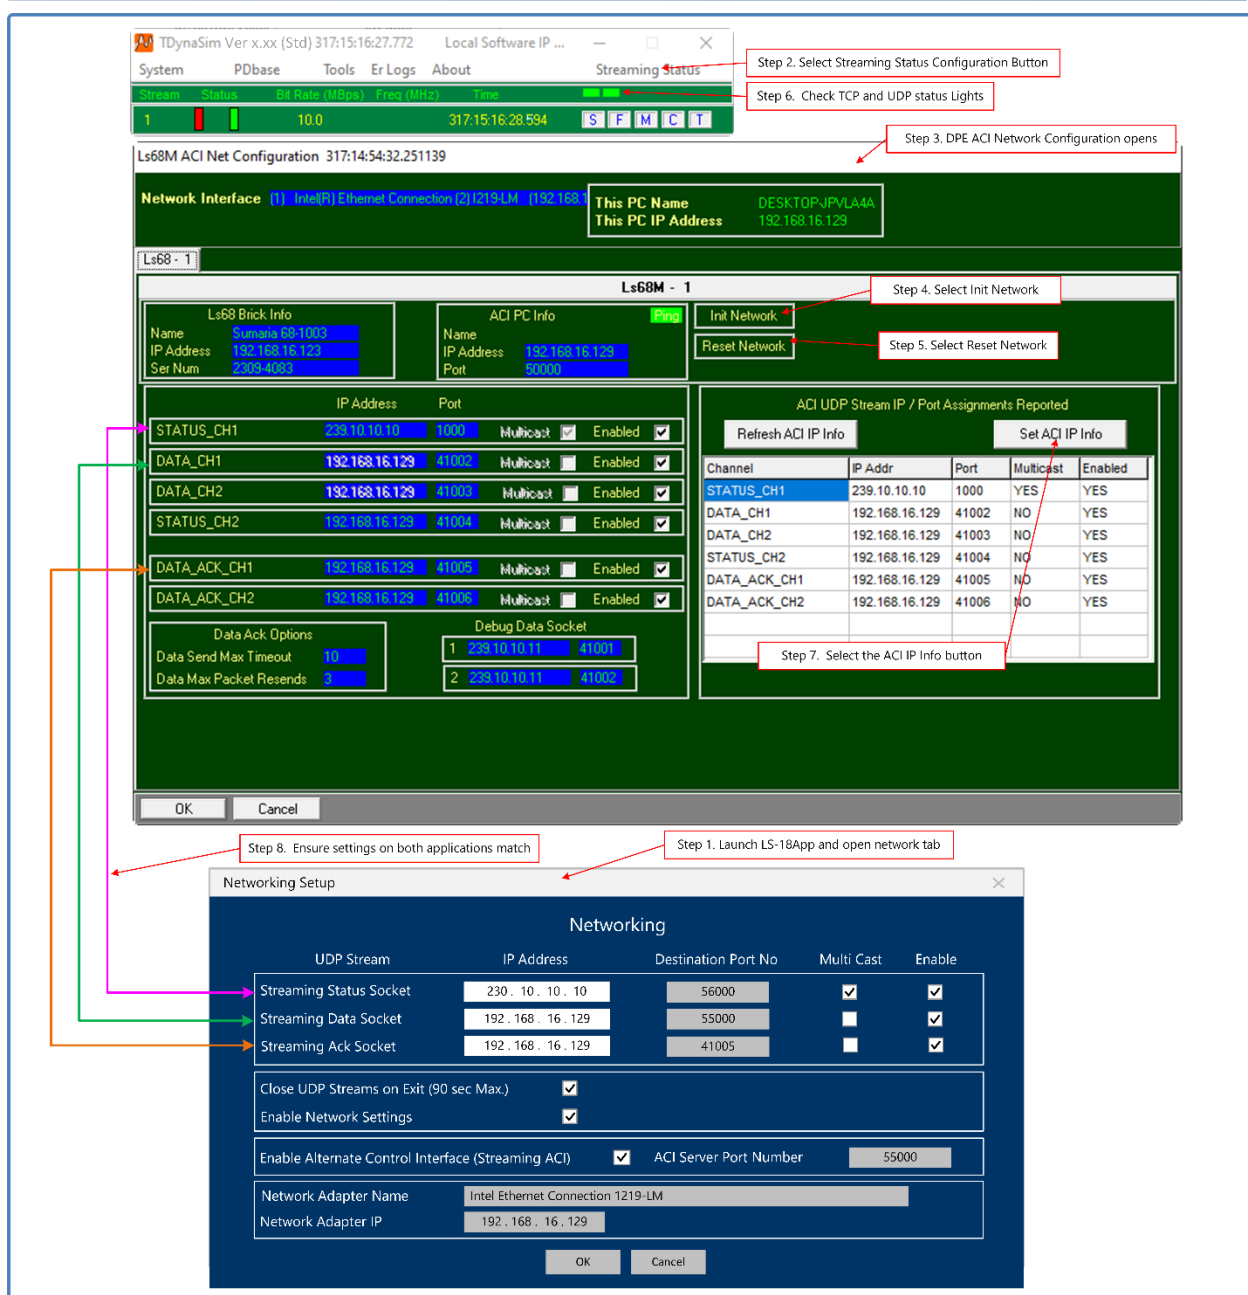

Figure 5-7 TDynaSim ACI Network Configuration Tab
- 5.) On the subsequent application launches, select the Streaming Status button at the upper right corner of the application to open the ACI Network configuration tab. Reference Figure 5-7 and follow the steps shown in this figure for connection between the LS18\_App and TDynaSim. This connection is being made via the Alternate Control Interface (ACI).